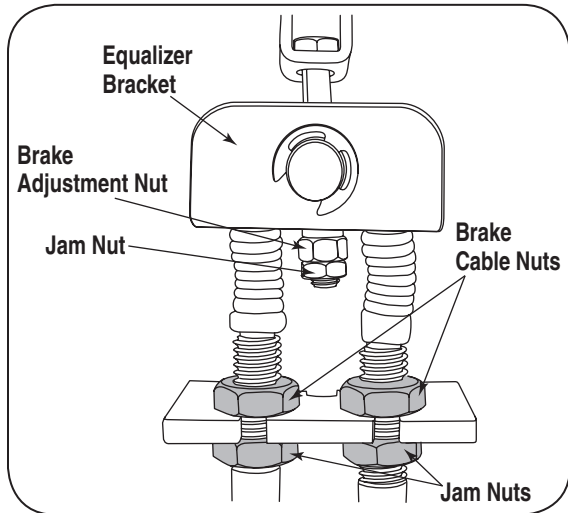

Figure 21
5. Check to see if the equalizer bracket is in a horizontal position. If not, loosen the jam nut and tighten or loosen brake adjustment nut until satisfactory brake performance is obtained and equalizer is level. See Figure 21.